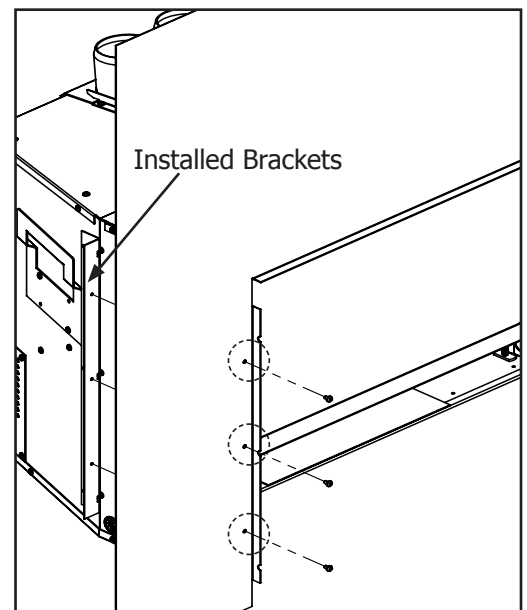

Figure 46: Screw Installation Locations.
1. Install the two Trimmable Panel brackets onto the E30 unit using a T-20 Torx screwdriver. See Figures 46 and 47 for the screw installation locations. There are three sets of hole patterns on the brackets depending on which Surround Panel is being installed. See Figures 47-51.